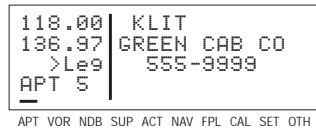

Figure 3-144
5. Turn the cursor off when you are finished creating the remark (figure 3-144).